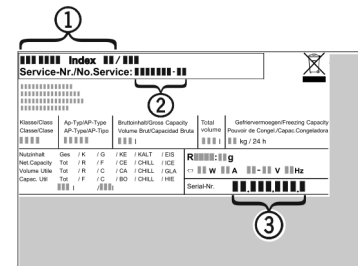

Fig. 35
- ▶ Read the appliance designation Fig. 35 (1), service No. Fig. 35 (2) and serial No. Fig. 35 (3) off the model plate located inside the appliance on the left-hand side.
- ▶ Notify the customer service, specifying the fault, appliance designation Fig. 35 (1), service No. Fig. 35 (2) and serial No. Fig. 35 (3).